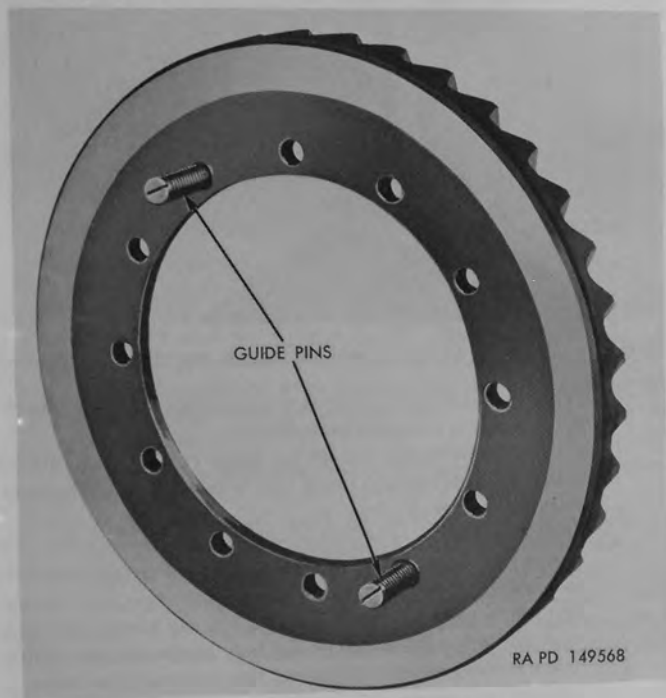

Figure 142. Use of guide pins in drive gear.
- (2) *Installation of drive gear.*—Cut heads off two old $\frac{1}{2}$ -20 x $1\frac{1}{8}$ cap screws; then taper the shank of screws slightly and cut slot in end of screw with hack saw. Install two screws in drive gear to serve as guide pins (fig. 142) and facilitate